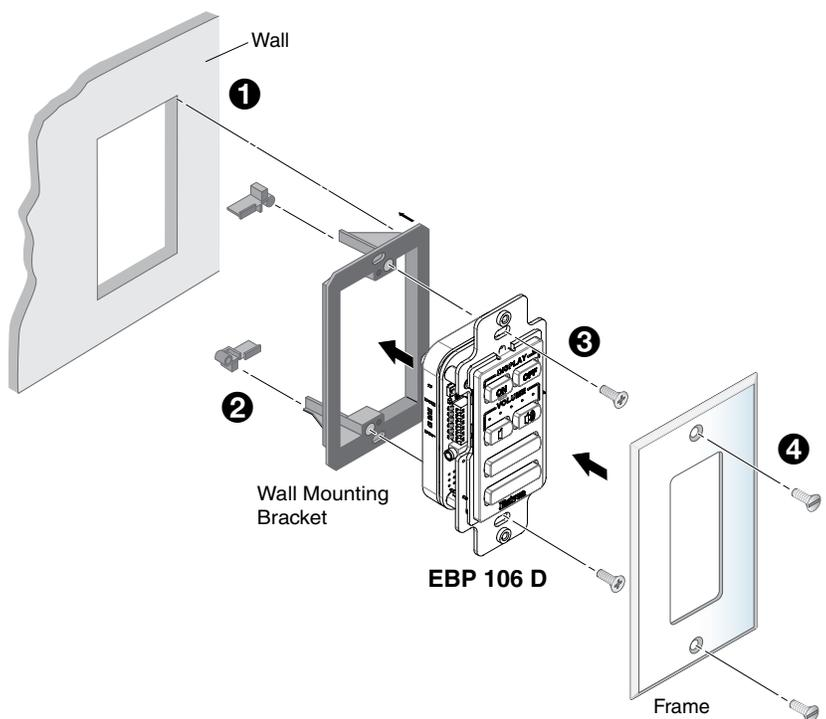

Figure 13. Mounting with a Wall Mounting Bracket
EBP panels can be installed directly into the wall using a 1-gang or 2-gang (EBP 111D) wall mounting bracket (mud ring) or a UL Listed junction box. Figures 13 (below) and 14 (on the next page) show how to mount a 1-gang EBP. Use the same procedure to mount the two-gang EBP 111 D.
1. Remove the two screws holding the frame to the module (see figure 13, 1).
2. Remove the two screws holding the module to the junction box or wall mounting bracket (2).
3. Remove the unit from the wall (3) and remove the eBUS cables from the rear panel connectors.